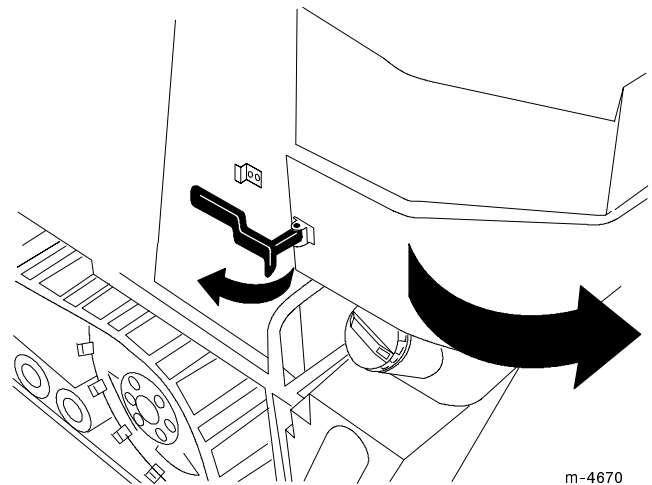

Figure 19
1. Pull out and forward on the latch to remove it from the locking bracket on the traction unit frame (Fig. 19).
2. Swing the rear access cover to the right (Fig. 19).
2. Place the latch over the locking bracket (Fig. 19).
3. Pull the latch rearward and push it in to lock it in place (Fig. 19).